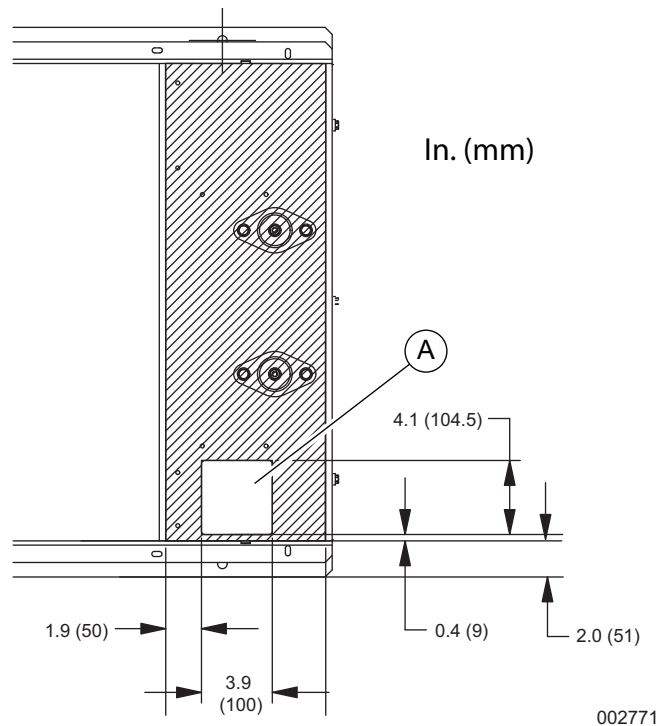

Figure 3-1. Installation Drawing Stub-Up Detail (Typical)
For load conduit, auxiliary power conduit (high voltage), and control wiring conduit (low voltage), see unit installation drawings for the location and dimensions of the stub-up area. **Figure 3-1** illustrates a typical stub opening (A).